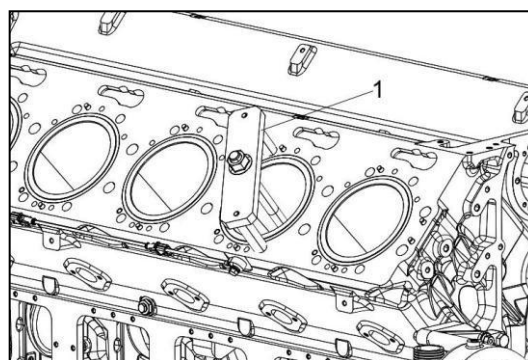

Figure 98
2. Install the extraction tool (Figure 98, 1).